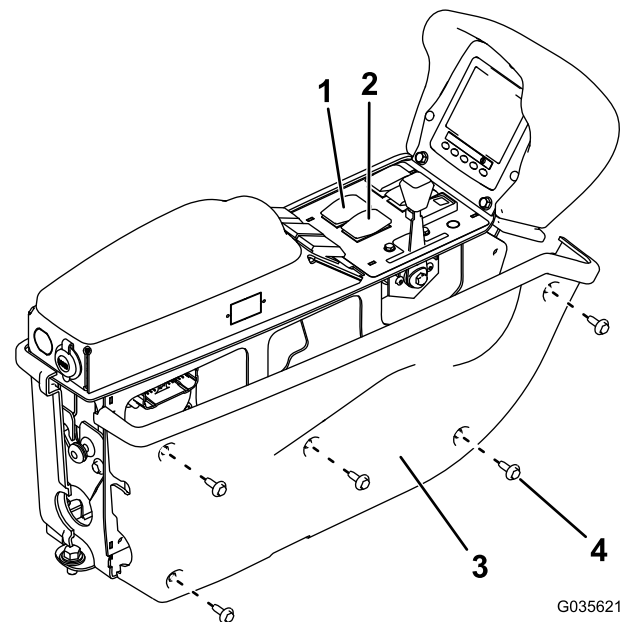

Figure 1
3. Remove the 5 bolts from the right panel on the control console, then remove the panel (Figure 1).
5. Disconnect the connectors from both actuator switches (Figure 1).
13. Connect the connectors to their respective actuator switches (Figure 1).
14. Install the right panel on the control console (Figure 1).